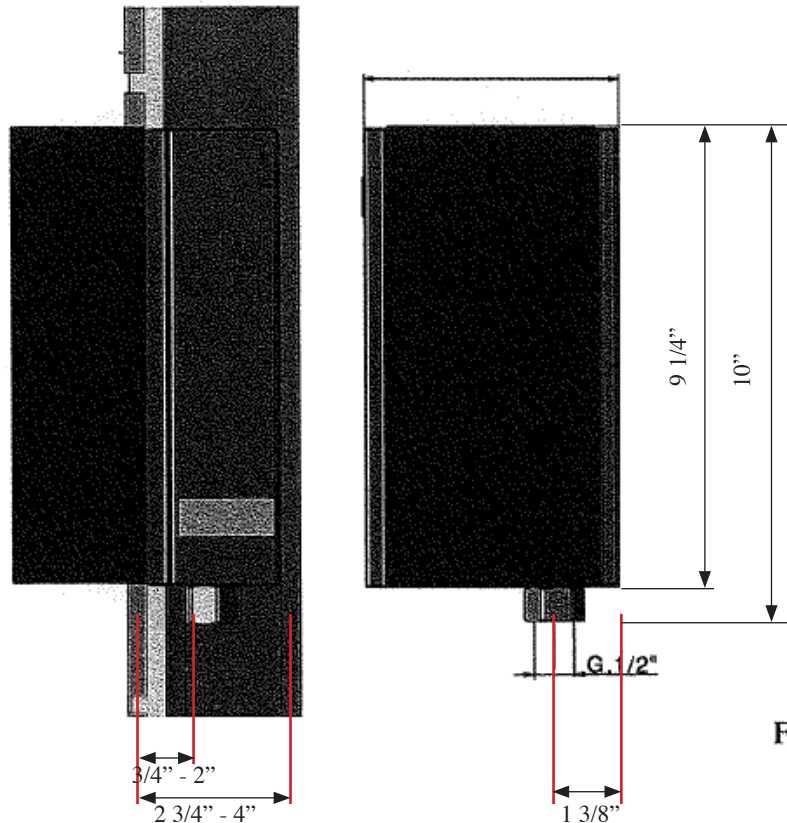

Fig. 1
- Prepare an appropriate hole in the wall and insert inside the built-in body with the protection MOUNTED. Installation rates are indicated in Fig.1 (allowed built-in depth means at finished wall level surface including coating).